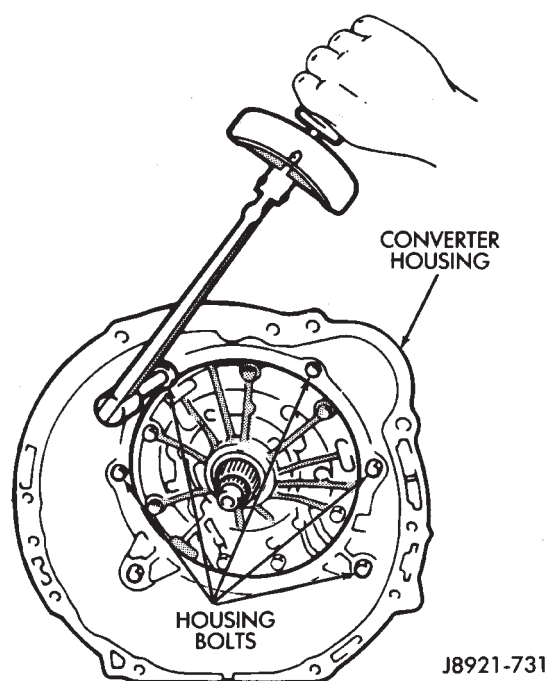

Fig. 67 Installing Converter Housing
(91) Install converter housing (Fig. 67). Tighten 12 mm diameter housing bolts to 57 N•m (42 ft. lbs.) torque. Tighten 10 mm diameter housing bolts to 34 N•m (25 ft. lbs.) torque.